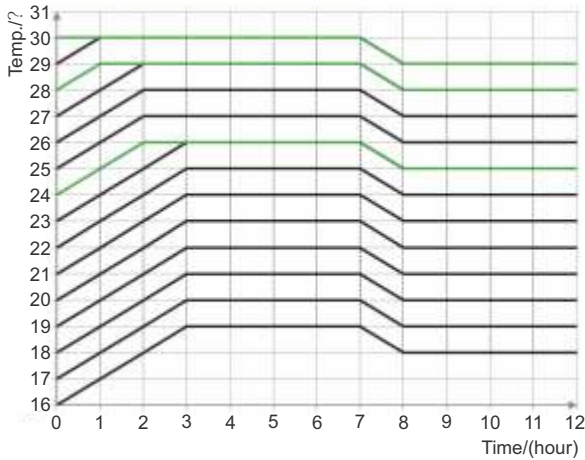

Fig.14 Sleep Curve under the COOL Mode
4. Under the Cool mode, the Sleep function is ON, the setting temperature range can be 16~23°C, 24~27°C, 28~29°C or 30°C. Each of them has a different curve as shown in Fig.14.